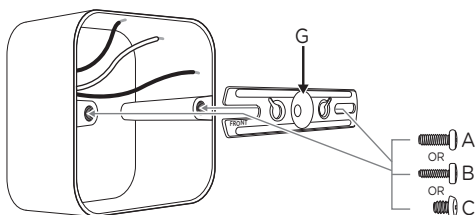

Figure 2
- 5) Remove the back mounting plate (L) from the back of light fixture (J).
- 6) Install the mounting bracket (G)
- Install the mounting bracket (G) with the stamped word "FRONT" facing away from the junction box. Use the mounting bracket screws (A, B or C) that best fit the junction box (see **Figure 2**).